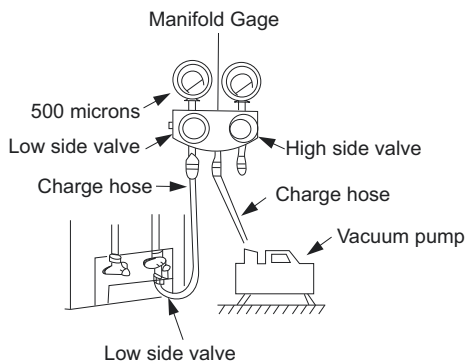

Fig. 7 —Manifold
3. Fully open the low side of the manifold gage (see Fig. 7).